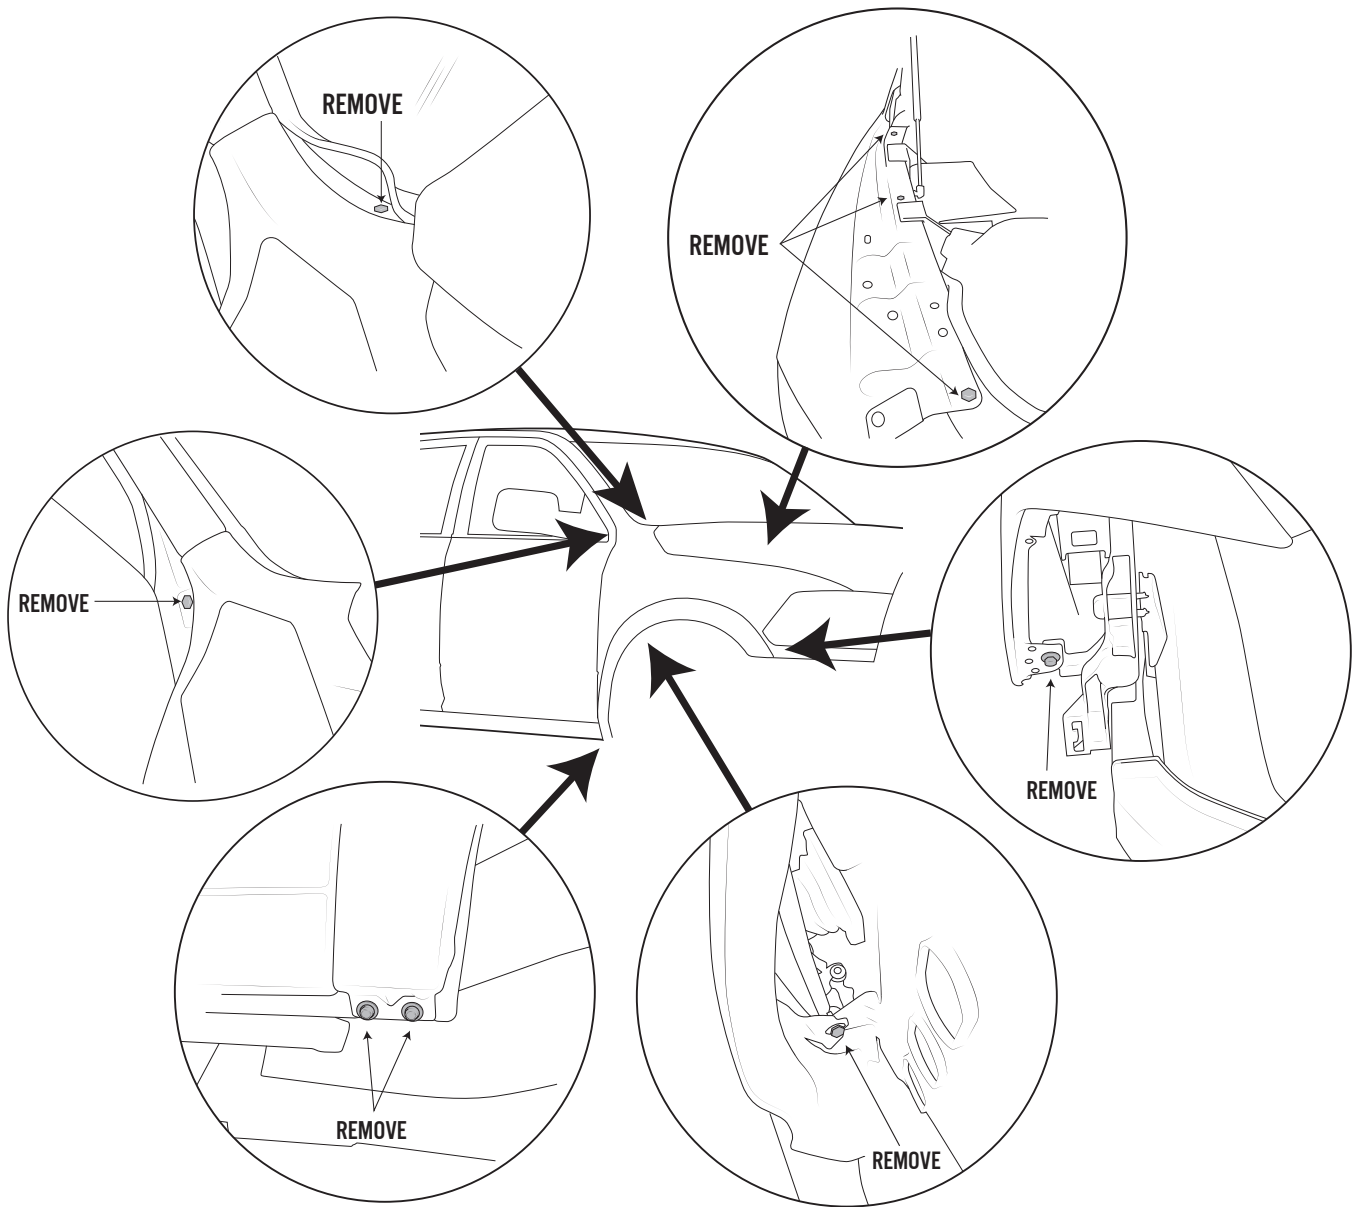

Figure 9
3. Remove the bolt behind the headlight. (Refer to Figure 9 for steps 3–8)
8. Remove the three (3) bolts on top of the right fender and carefully remove the fender.